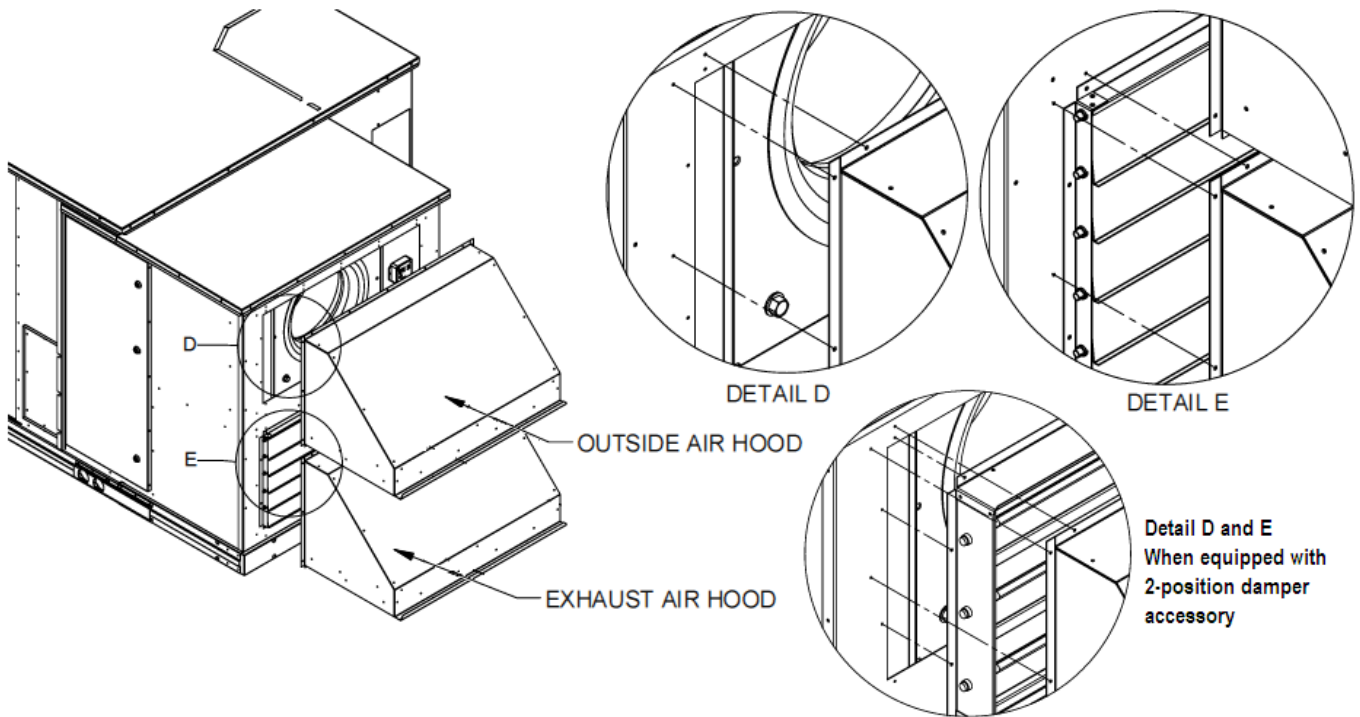

Figure 1h – Hood Installation
7. Using the seal tek screws provided, install the outside air hood to the ERV using pre-set holes. Install the aluminum water filter in the outside air hood held by the filter clips. See figure 1h.
8. Using seal tek screws provided, install the exhaust hood to the ERV using pre-set holes with the barometric damper completely within the hood. Remove shipping tape from damper blades. See figure 1h.